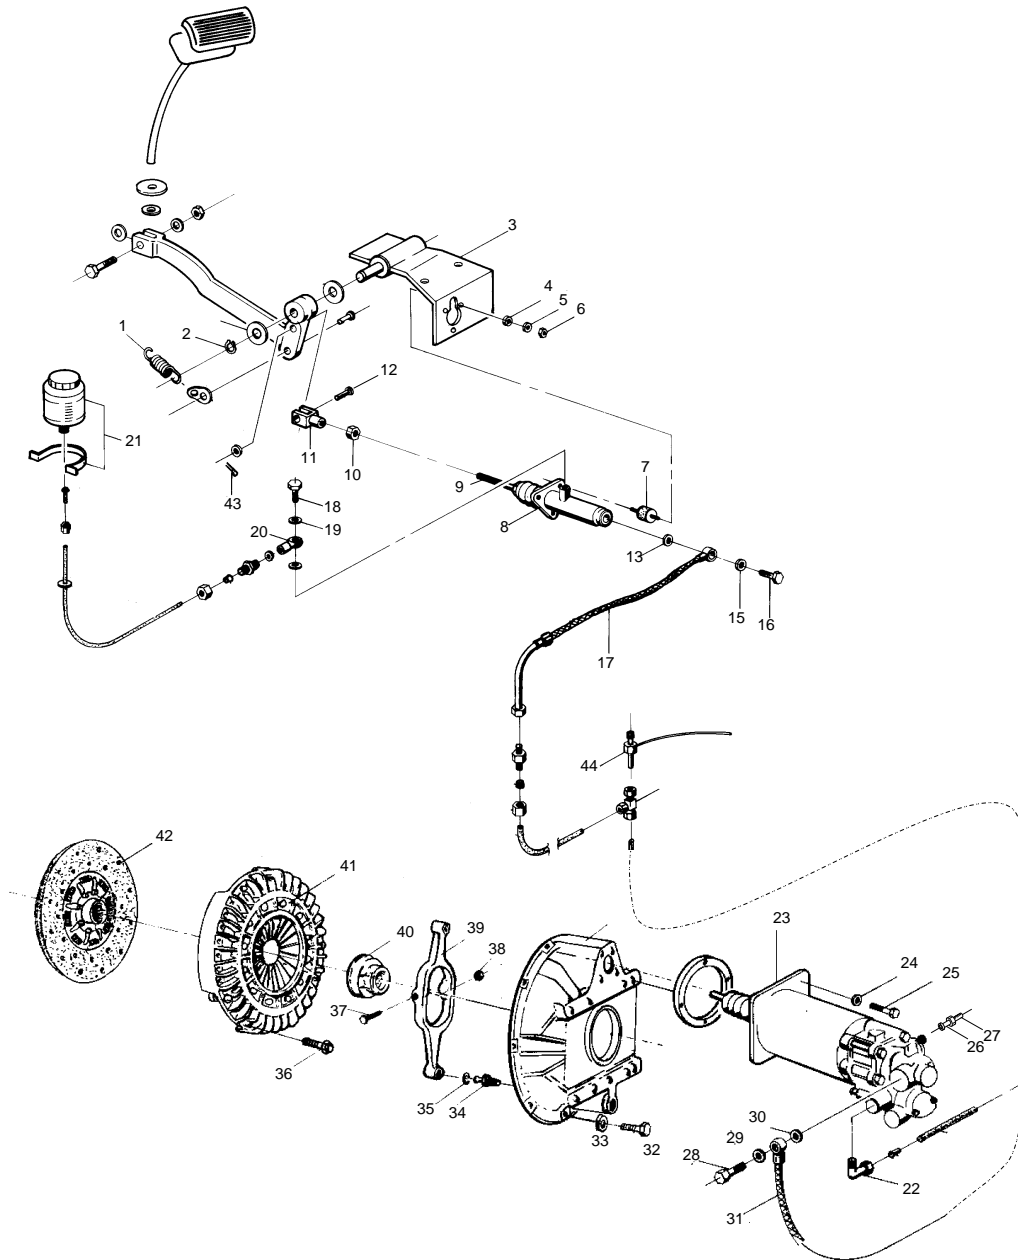

Figure 1 Overview of clutch operation
(See Figure 1)
The air pressure piston {8} is pushed against the pressure spindle by a spring {7}. The thrust bearing {40}, Figure 1 is therefore constantly loaded to some extent. As a result, the wear of the clutch plates is not noticeable due to the increasing play. As the clutch plates wear, the air pressure piston {8} is further pushed back.
Because of the fluid pressure on connection {6}, regulating piston {4} is pushed against the valve {2}. This closes the air outlet {5}. Air inlet {3} is now opened and pressure is built up on the left-hand side of the air pressure piston {8} so this moves to the right. Pressure spindle {9} comes out and pushes the thrust bearing {40}, Figure 1 against the release fingers of the clutch release assembly {41}, Figure 1. The gearbox is accordingly released.
For a parts overview see Figure 1.
- Turn adjuster bolt **{37}** Figure 1 until the thrust bearing **{40}** is not quite tight.